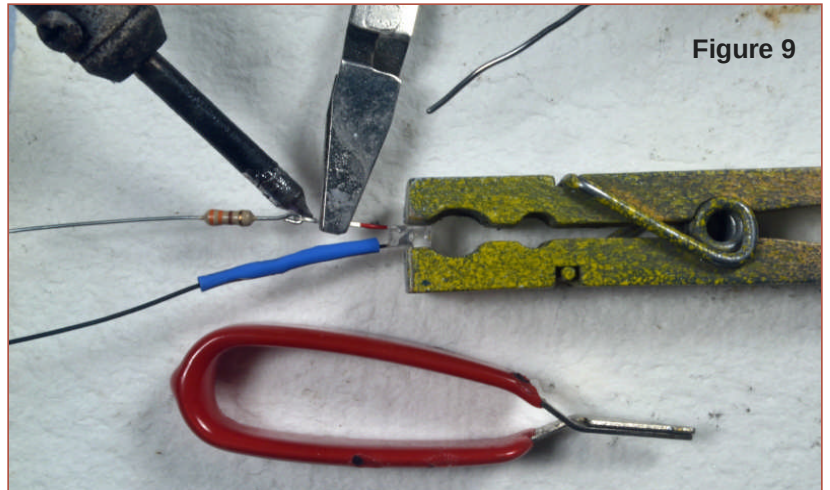

Figure 9
Wiring LEDs: One important way in which LEDs are different from bulbs is that they are direct current (DC) devices and have to be connected with the proper polarity. Usually the longer of the two leads goes to the positive side of the circuit. I always put a small dab of red paint on the long lead since after cutting and bending the leads you can lose track of which is the positive one. Another difference from bulbs is that an LED cannot be directly connected across the power supply (unless you want to create a DED – a dark emitting device!). Rather, a voltage dropping resistor has to be connected in series, as shown in **Figure 1** and **Figure 9**. The resistor can be on either side of the LED, as long as it is in series. Often an appropriate resistor for a 12-volt supply will come with the LED. However, this may not be the case, or you may wish to use a different voltage. To do that you will need to calculate
Wiring LEDs is straightforward if you have experience soldering. If not, it's not that hard, so don't be intimidated. It's best to use a small iron, not a big soldering gun, and to attach some form of heat sink¹ between the solder point and the LED. I prefer to solder at the workbench before installing if possible, as seen in **Figure 9**. Here the LED is held with a clothespin, and I am using a hobby clamp as a heat sink. In the foreground is a commercial heat sink, or you could use an alligator clip. Note the red paint on the positive lead. If the bare leads are going to be close together, it is best to provide some form of insulation to prevent a possible short circuit. In Figure 9 this has already been done on the negative lead using heat shrink tubing. This is just slipped over the